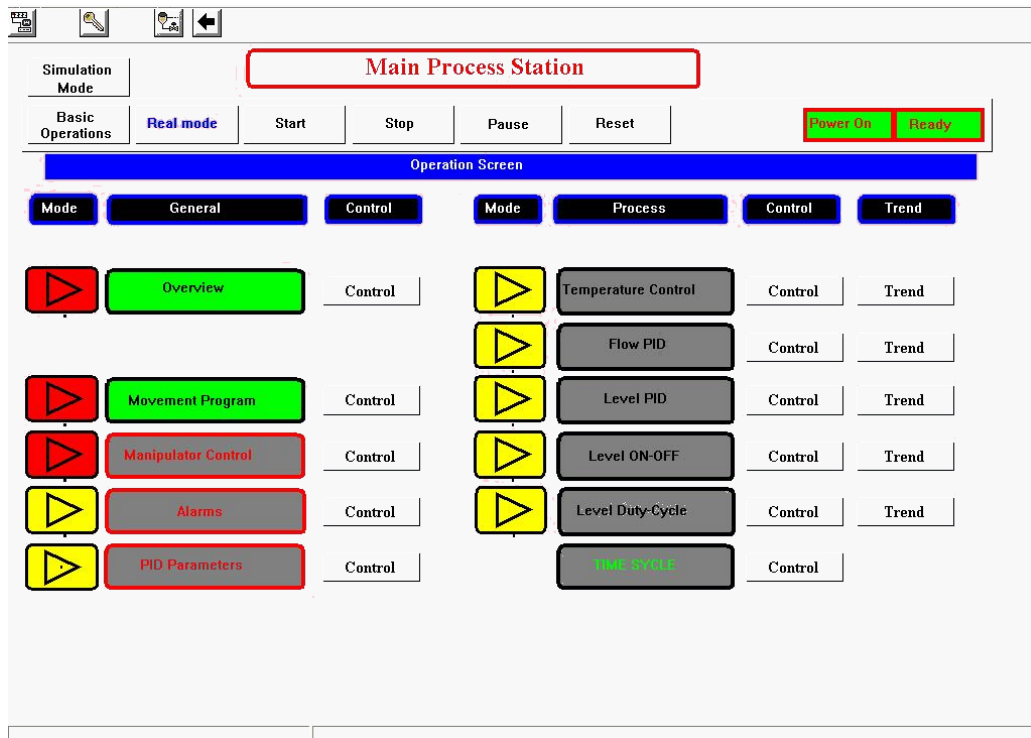

Figure 167: Main Process Station
8. Click **Restart**. The Main Process Station window (shown in Figure 167: Main Process Station) is displayed in the background. Click **Close** to close the Vuniq Application Manager window.
3. Select **Operator Screens**. The Main Process Station window is displayed, as shown in, Figure 167: Main Process Station.
8. Click the  icon to return to the Main Process Station window (shown in Figure 167: Main Process Station).